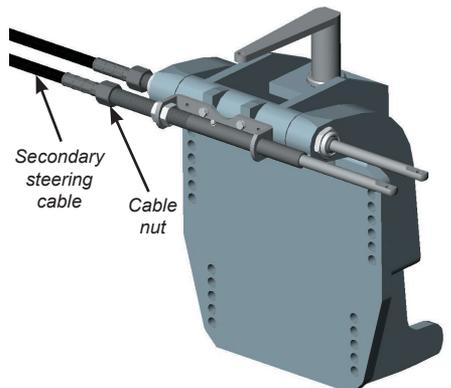

Fig B9 - Secondary steering cable
- ii) Insert the rod end of the secondary steering cable into the threaded end of the guide tube (Fig B9).